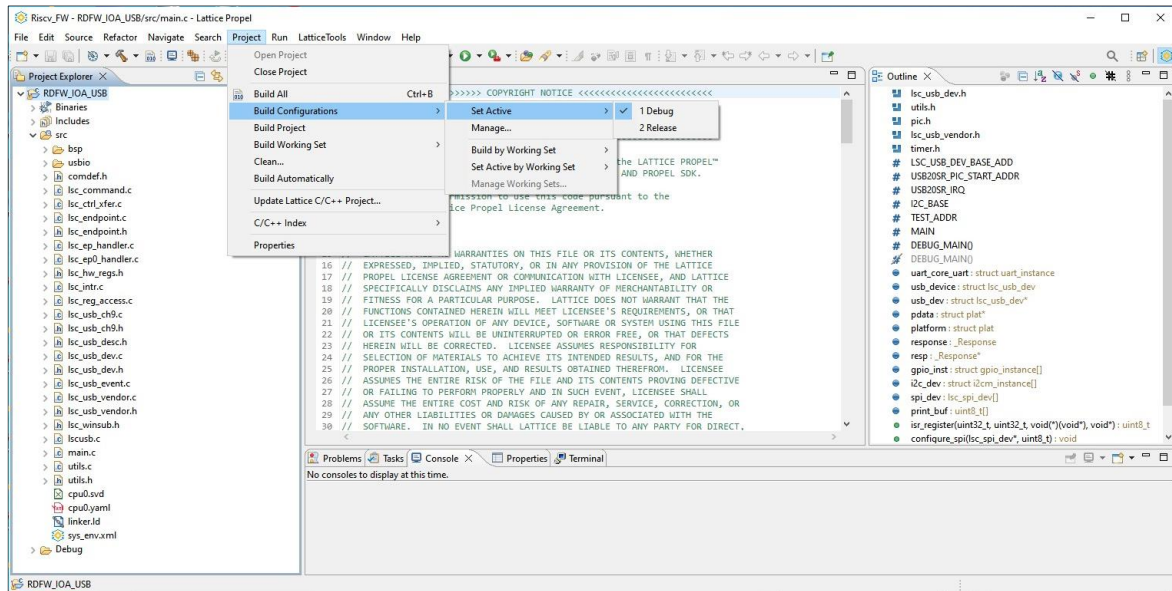

Figure 5.5. Set Propel Build Configuration Mode
1. To compile the Propel SDK project to generate the memory image for the RISC-V firmware, select the Propel Build Configuration Active to **Debug** mode, as shown in Figure 5.5.